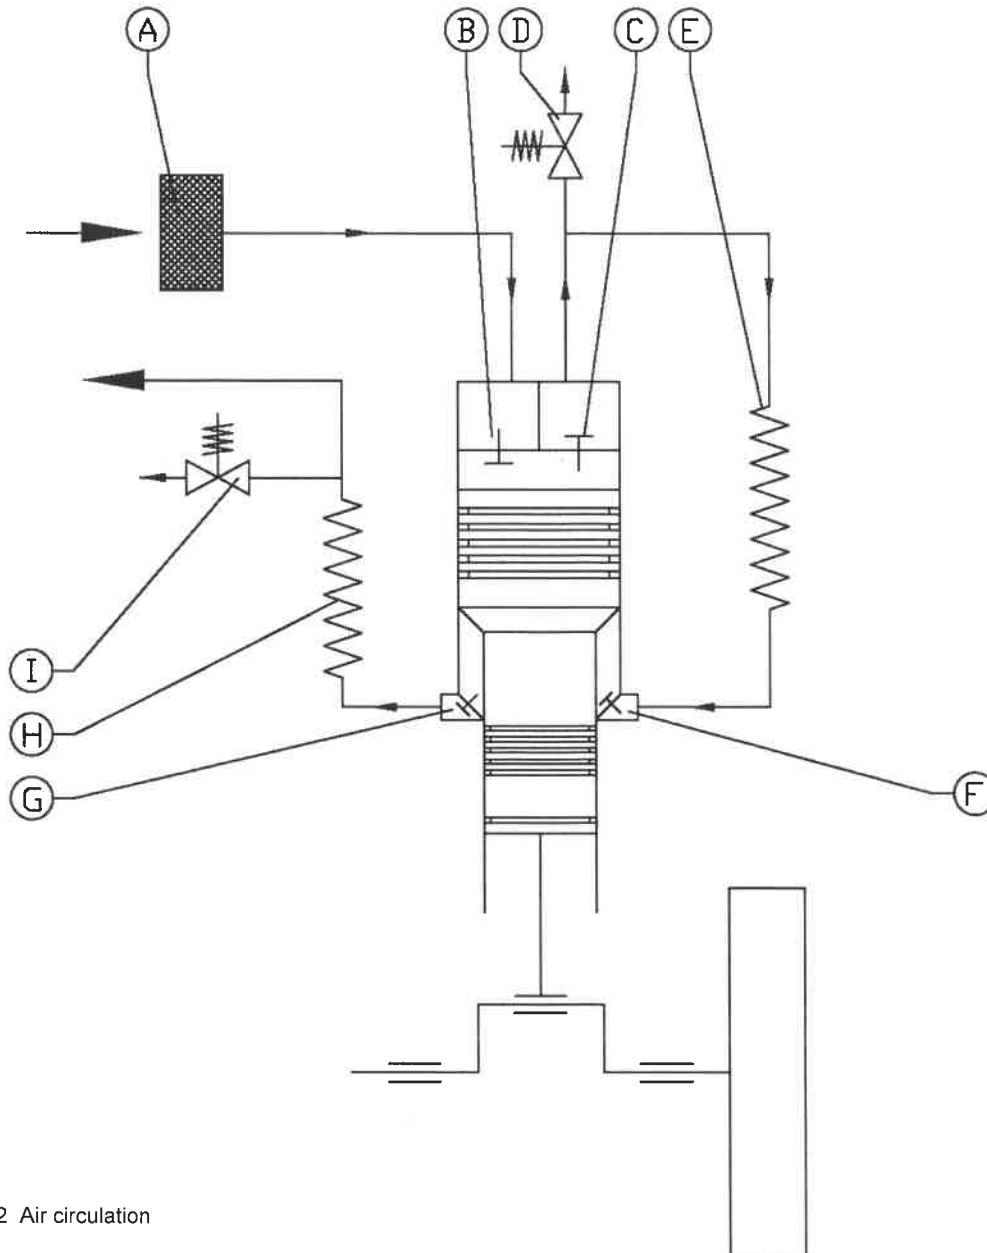

Fig. 2.2 Air circulation
3. High (HP) air temp trip.
The compressor's first stage is often referred to as the low pressure (LP) stage, and the second stage is called the high pressure (HP) stage. The circulation of air through the compressor is shown in Figure 2.2.